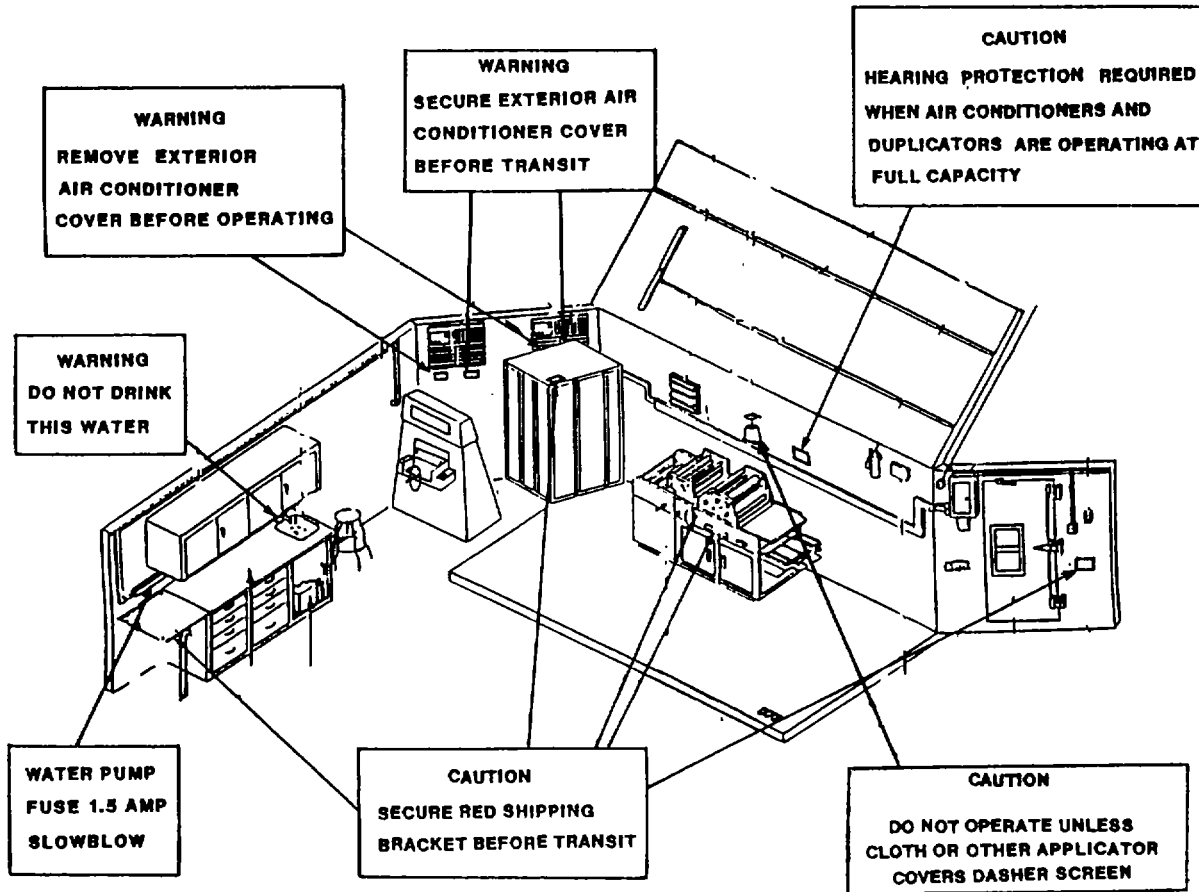

Figure 2-6. Operating Instructions on Decals and Data Plates
a. Interior Decals and Data Plates. Figure 2-6 shows the location of operating instructions on decals.